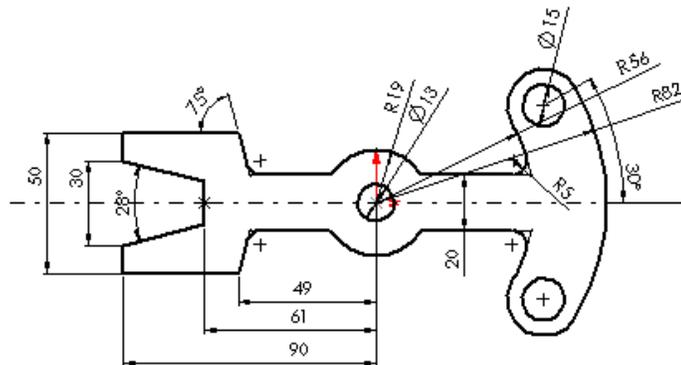

Figure 3-66 Sketch after applying all relations and dimensions
24. Select the upper left inclined line, and the lower left inclined line, refer to Figure 3-66. An angular dimension is attached to the cursor. Move the cursor horizontally toward the left and place the dimension.
All the entities are displayed in black, suggesting that the sketch is fully defined. The fully defined sketch is shown in Figure 3-66.